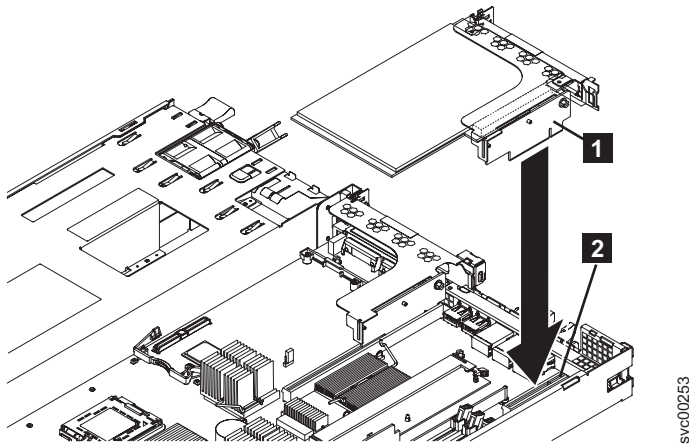

Figure 186. Replacing the riser-card assembly for the SAN Volume Controller 2145-8G4
1. As you start inserting the adapter, align the edge connector on the low-profile adapter **1** with the connector **3** on the riser-card assembly **4**. Make sure that the adapter snaps into the riser-card securely. Press the riser-card edge connector firmly into the system-board connector. **5**, as shown in Figure 186 on page 171.